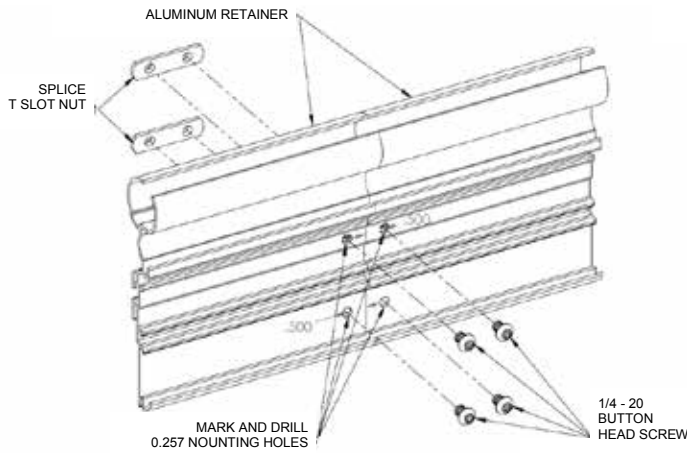

Figure 4
STEP 5. Insert molded accessories into the end of the corresponding aluminum retainer, press firmly to ensure that the molded part is seated squarely against the end of the retainer. Drill, or mark and drill, the accessory mounting holes using the accessory as a template (See Figure 4, above).